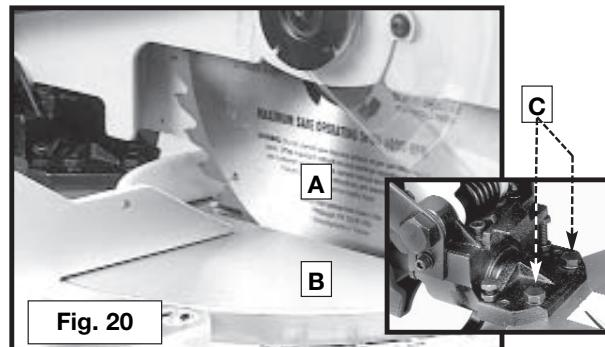

Fig. 20
1. Lower the cutting arm. The saw blade (A) Fig. 20 should be parallel to the left edge (B) of the table opening.
2. If an adjustment is necessary, loosen two screws (C) Inset, and move the cutting arm until the blade is parallel with the left edge (B) of the table opening and centered in the slot. Then tighten the two screws (C).